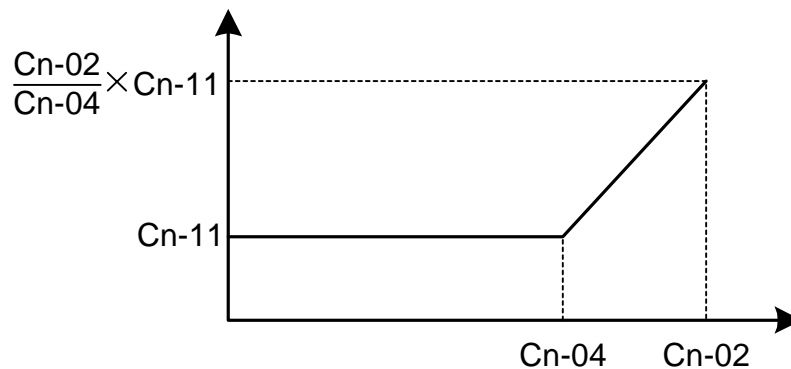

Fig. 17. Slip compensation limit
- The setting is shown in Fig. 17 in the constant torque and constant output range. If setting Cn-11 is zero, no slip compensation is used.